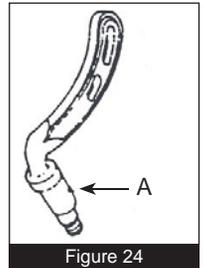
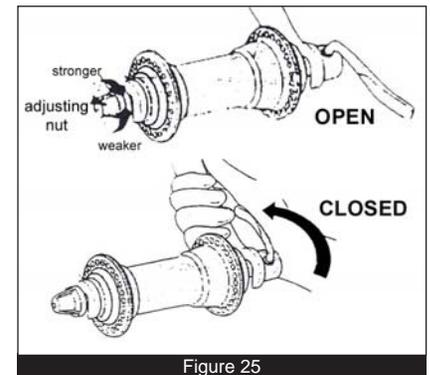
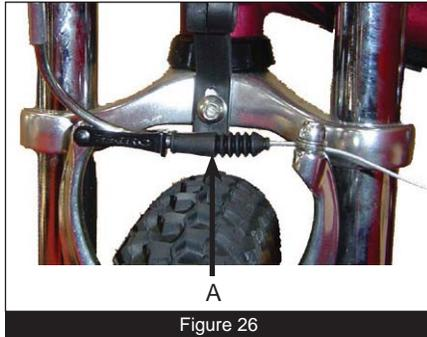

Figure 24
Figure 25
Figure 26
**A quick release is a cam action device, not a nut and bolt unit.** Use only your fingers to adjust and tighten the quick release. The opening and closing lever of the quick release has an eccentric bump, a cam on it, (A in **Figure 24**) which is, in effect, a powerful lever. This lever amplifies the turning force made by your hand as you force the quick release lever to the closed position (**Figure 25**).
Hold brake shoes against the wheel rim while you pull the cable carrier up and out of the slot in the crossbar (A in **Figure 26**). Now the brake shoes will be far enough apart so you can remove the front wheel (**Figure 27**). Turn the quick release lever to the OPEN position (**Figure 25**) which is when the lever is pointed toward the front of the Buddy Bike. Remove the front wheel. Punch down on the tire if necessary.
Replace the front wheel in the fork dropouts. Be sure the tire is centered between the fork blades (**Figure 28**). Hold the wheel in place while you tighten the quick release lever all the way to the closed position (**Figure 25**). Check quick release tightness. As you move the quick release lever toward the rear of the bike, past the 12 o'clock position you should feel increasing pressure. You should have a red pressure mark on the palm of your hand from the force needed to close this lever all the way. If you do not feel this pressure, readjust the quick release mechanism as follows:
Do not use any tool on this adjuster nut. Use only your fingers! Turn the quick release lever all the way to the closed position (**Figure 25**). Again, you must feel considerable turning resistance as the lever moves past the 12 o'clock position to the closed position.
See that the red mark from tightening pressure is on the palm of your hand. Punch down hard on the tire with the flat of your clenched fist. The wheel should not fall out. Open the quick release, remove the wheel and inspect the fork dropouts. You should see "bite" marks on the fork dropout made by the sawtooth edges of the quick release (**Figure 29**). Repeat these quick release adjustments and tightening steps until you can see these "indents." Replace the cable in the crossbar (**Figure 26**) as you hold the brake shoes against the wheel rim.